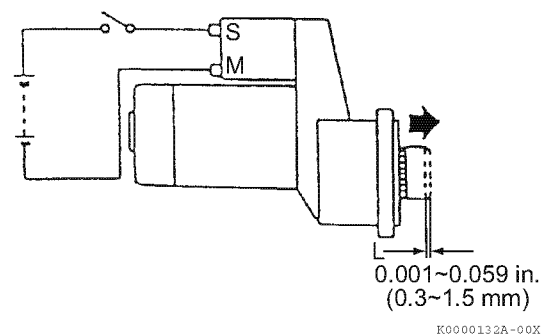

Figure 10-35
4. Turn the switch on and measure the pinion moving distance, dimension L, in the thrust direction (Figure 10-35). Perform this test within 10 seconds.